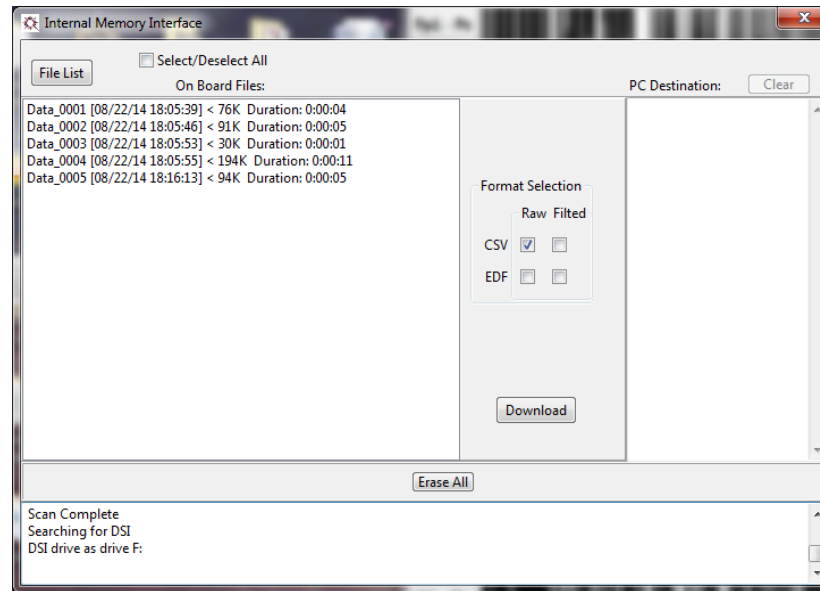

Figure 22 – Files stored in headset internal memory.
- Click on **File List** button to see the files recorded to internal memory. An example is shown in Figure 22.